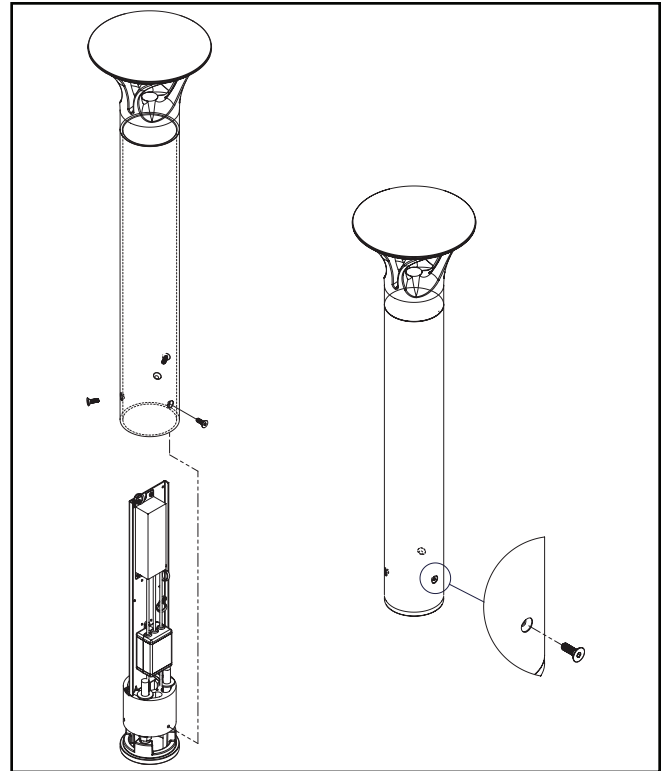

Figure 4.
13. Lift fixture and slide it over base driver assembly and align bottom holes with base extrusion. (Figure 4.)